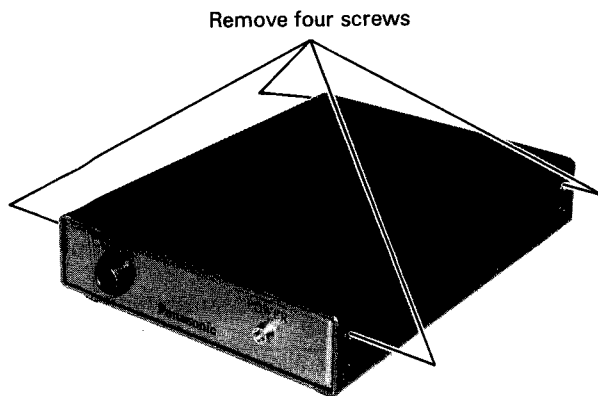

Fig. 1
- Referring to Fig. 1, remove four screws fixing the Upper Cover of the E.V.R. Adjustment Kit.